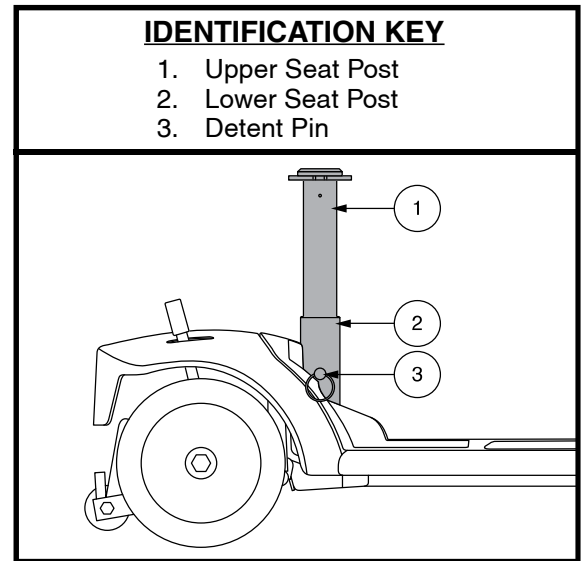

Figure 26. Seat Height Adjustment
The seat can be repositioned to different heights. See **figure 26**.
2. Remove the upper seat post from the Travel Scooter by removing the detent pin from the lower portion of the seat post, then lifting the post straight up and off the Travel Scooter. See figure 26.